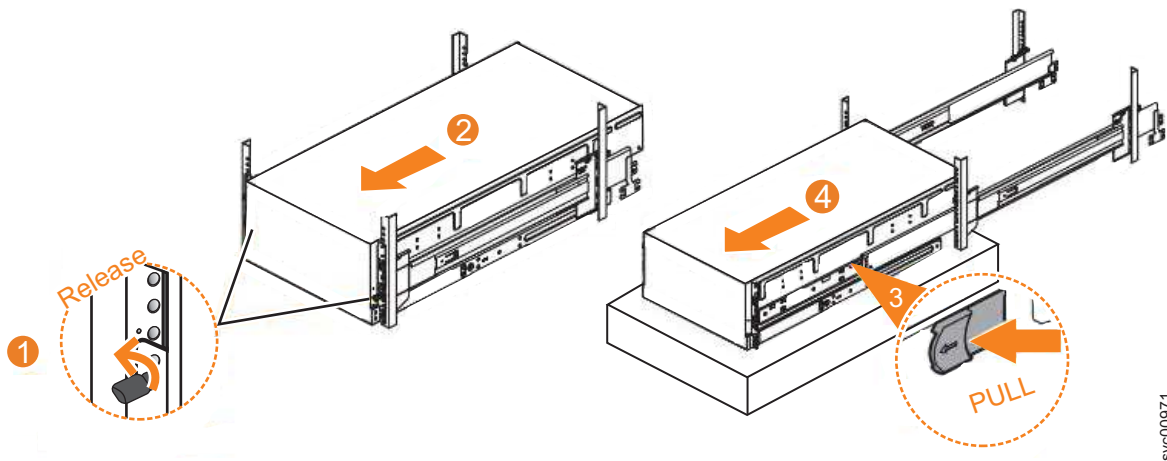

Figure 85. Removing the 2077-92F enclosure from the rack
1. Loosen the locking thumb screws (**1**) on the front of the enclosure, as shown in Figure 85.
2. Carefully slide the enclosure forward out of the rack (**2**), as shown in Figure 85.
3. Locate the left and right blue release tabs near the front of the enclosure. Pull both release tabs forward to unlock the drawer mechanism (**3** in Figure 85).
4. Slide the enclosure and inner rail member out of the rack (**4** in Figure 85).